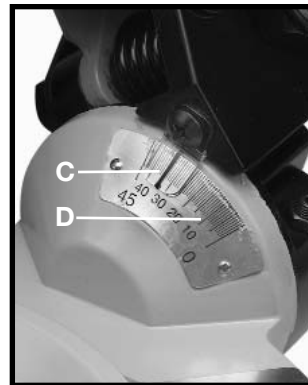

Fig. 19
Positive stops are provided to rapidly position the saw blade at 90 and 45 degrees to the table. Refer to the section of this manual titled “**ADJUSTING 90 AND 45 DEGREE BEVEL STOPS.**” The bevel angle of the cuttinghead is determined by the position of the pointer (C) Fig. 19 on the scale (D).